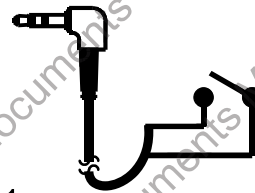

Fig. 21
- (3) DIS: Disable the mute function.
- (4) HOLD: Fig. 21